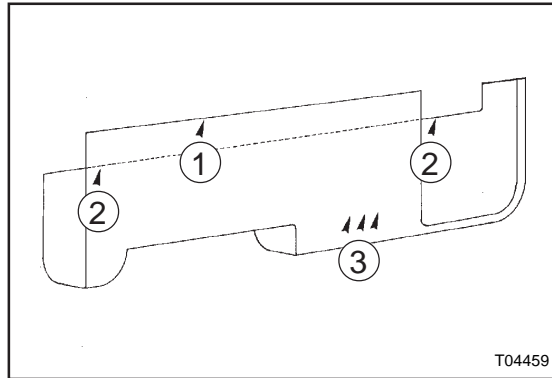

Figure 8: ABS rear bench moulding. Approximate location of retaining screws
7. Using a long cross tip screwdriver undo and remove the retaining screw on the inside of the moulding through the opening between the two reading lights bowls (1, Figure 8).
8. Undo and remove the two retaining screws at the back of the moulding (2, Figure 8).
9. Through the control panel opening in the parcel rack, withdraw the three retaining screws at the front of the moulding (3, Figure 8).